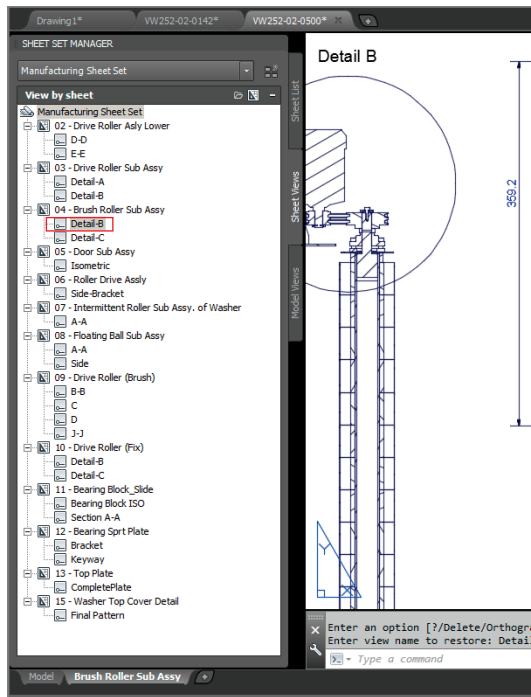

FIGURE 1.8 Docking a palette
7. Select Sheet Views on the Tabbed interface. Double-click Detail-B under 04 – Brush Roller Sub Assy in the Manufacturing sheet set (see Figure 1.8). A new drawing appears in the drawing window.